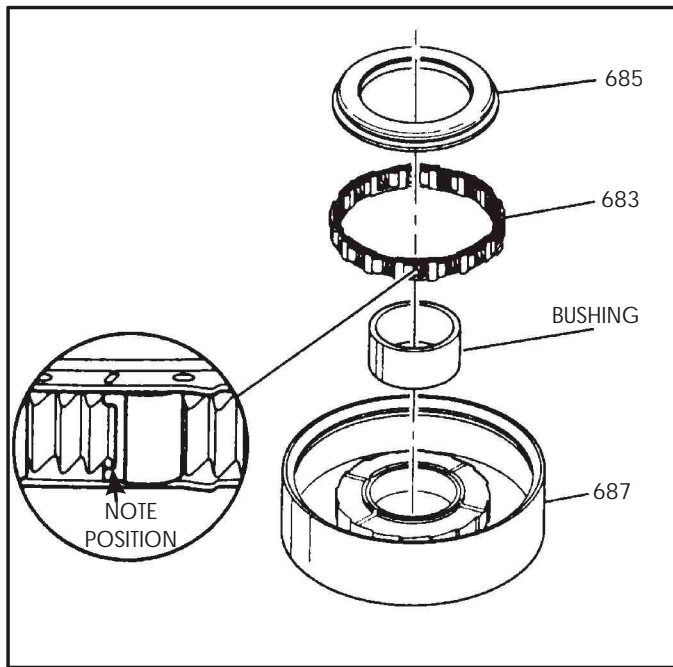

Figure 92
1. Use a small screwdriver to gently pry the thrust bearing (685) off of the 1-2 roller support, as shown in Figure 92.
2. Lift the 1-2 roller clutch assembly (683) out of 1-2 roller support (687), as shown in Figure 92.
4. Install the 1-2 roller clutch assembly (683) onto the inner race of the 1-2 support, as shown in Figure 92.
Important: Note the position of the ribbon tabs for proper installation (See Figure 92).
5. Install the thrust bearing (685) onto the support by gently pressing down with hand pressure only (See Figure 92).